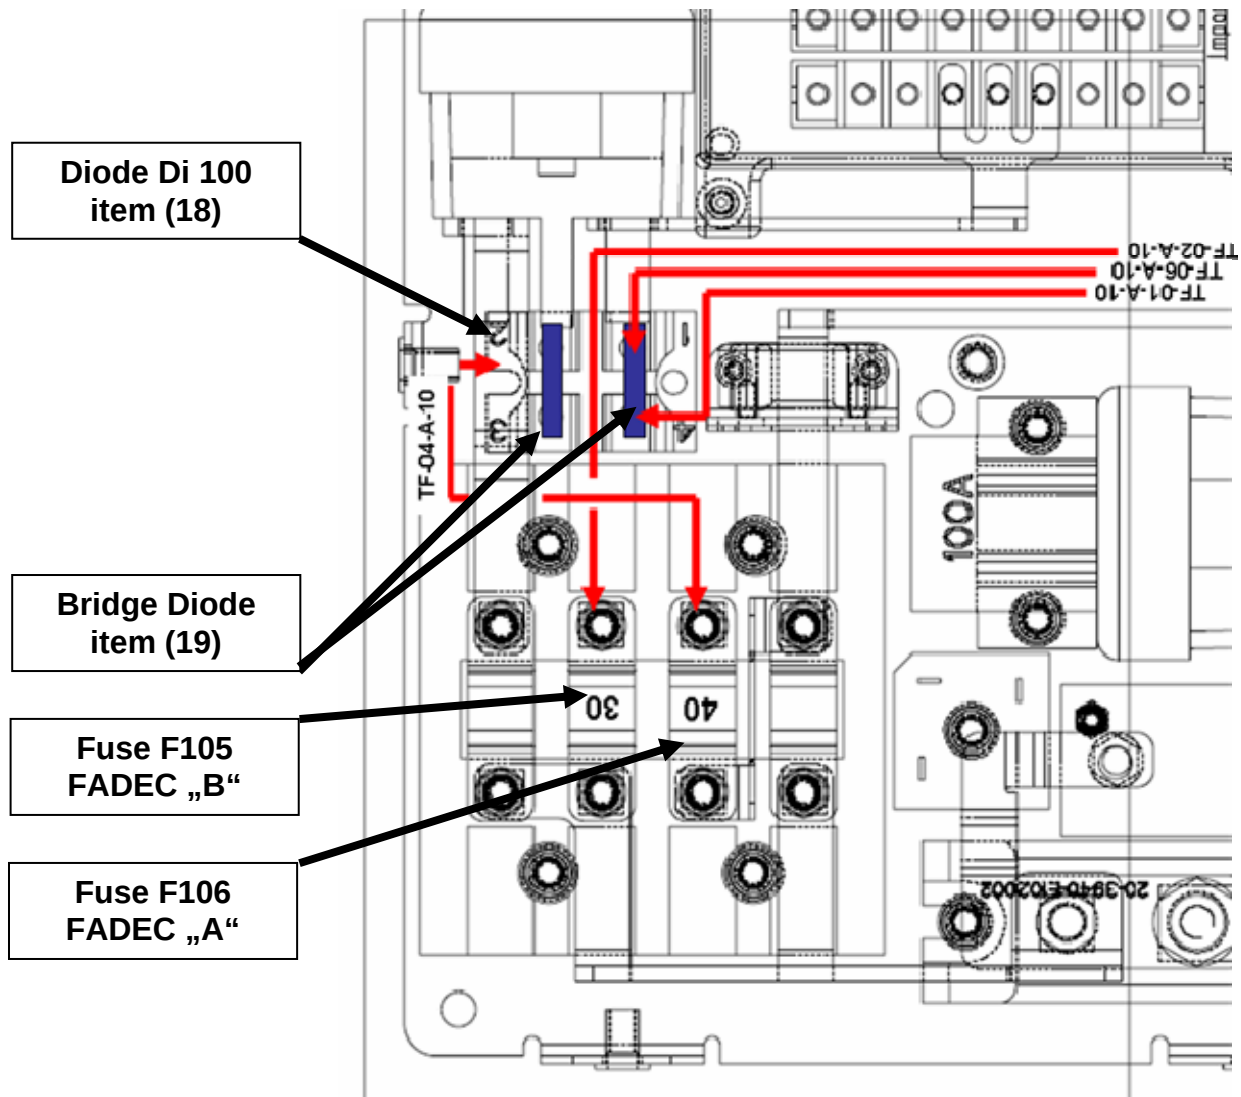

Figure 2 Relay board TAE (14V and 28V) after modification
- Fasten cable with cable strap and use abrasion protection (21) at feed positions.
- Connect cable TF-06-B-10 (26) to the circuit breaker (7) “BAT” using nut (31 or 34 resp.) and attach a rubber cap (11).
- Connect cable TF-06-N-10 (27) to the ground connection of the main battery. Refer to AMM-40-02.
- **CAUTION:** Do not connect cables (26) and (27) to the battery!
- Use an elastomer tube (20) for the battery connections.
- 5. Modification of relay board TAE for versions 14V and 28V (see figure 2)
- Install new diode (18) into the relay board.
- Fasten the diode with two screws (8), two washers (9) and two nuts (10).
- **CAUTION:** Washers (9) need to be positioned underneath the nuts (10)!